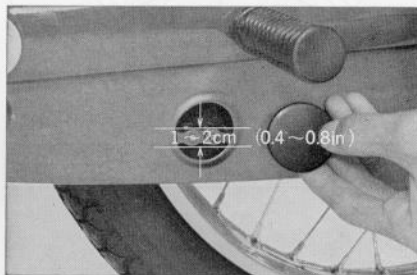

Fig. 3.9 Adjusting the chain
11. Adjust the chain with the chain adjuster nuts on both sides of the rear wheel so that there is a slack of 1~2 cm (0.4~0.8 in) when checked with fingers on the bottom loop at mid-point between the sprockets. (Fig. 3.9)